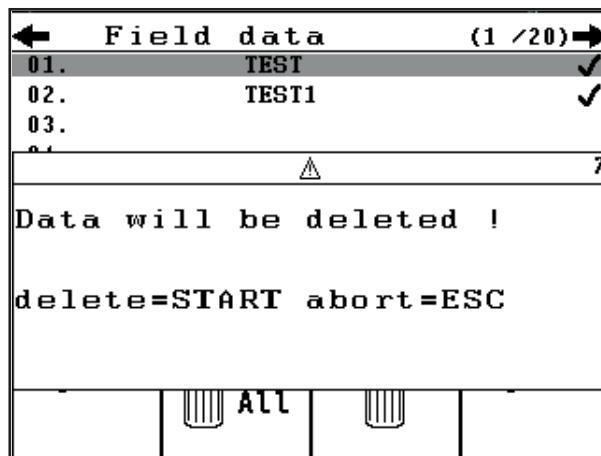

Figure 4.33: Message prior to deletion of the files
- ▷ A message appears indicating that all data will be deleted (see figure 4.33).